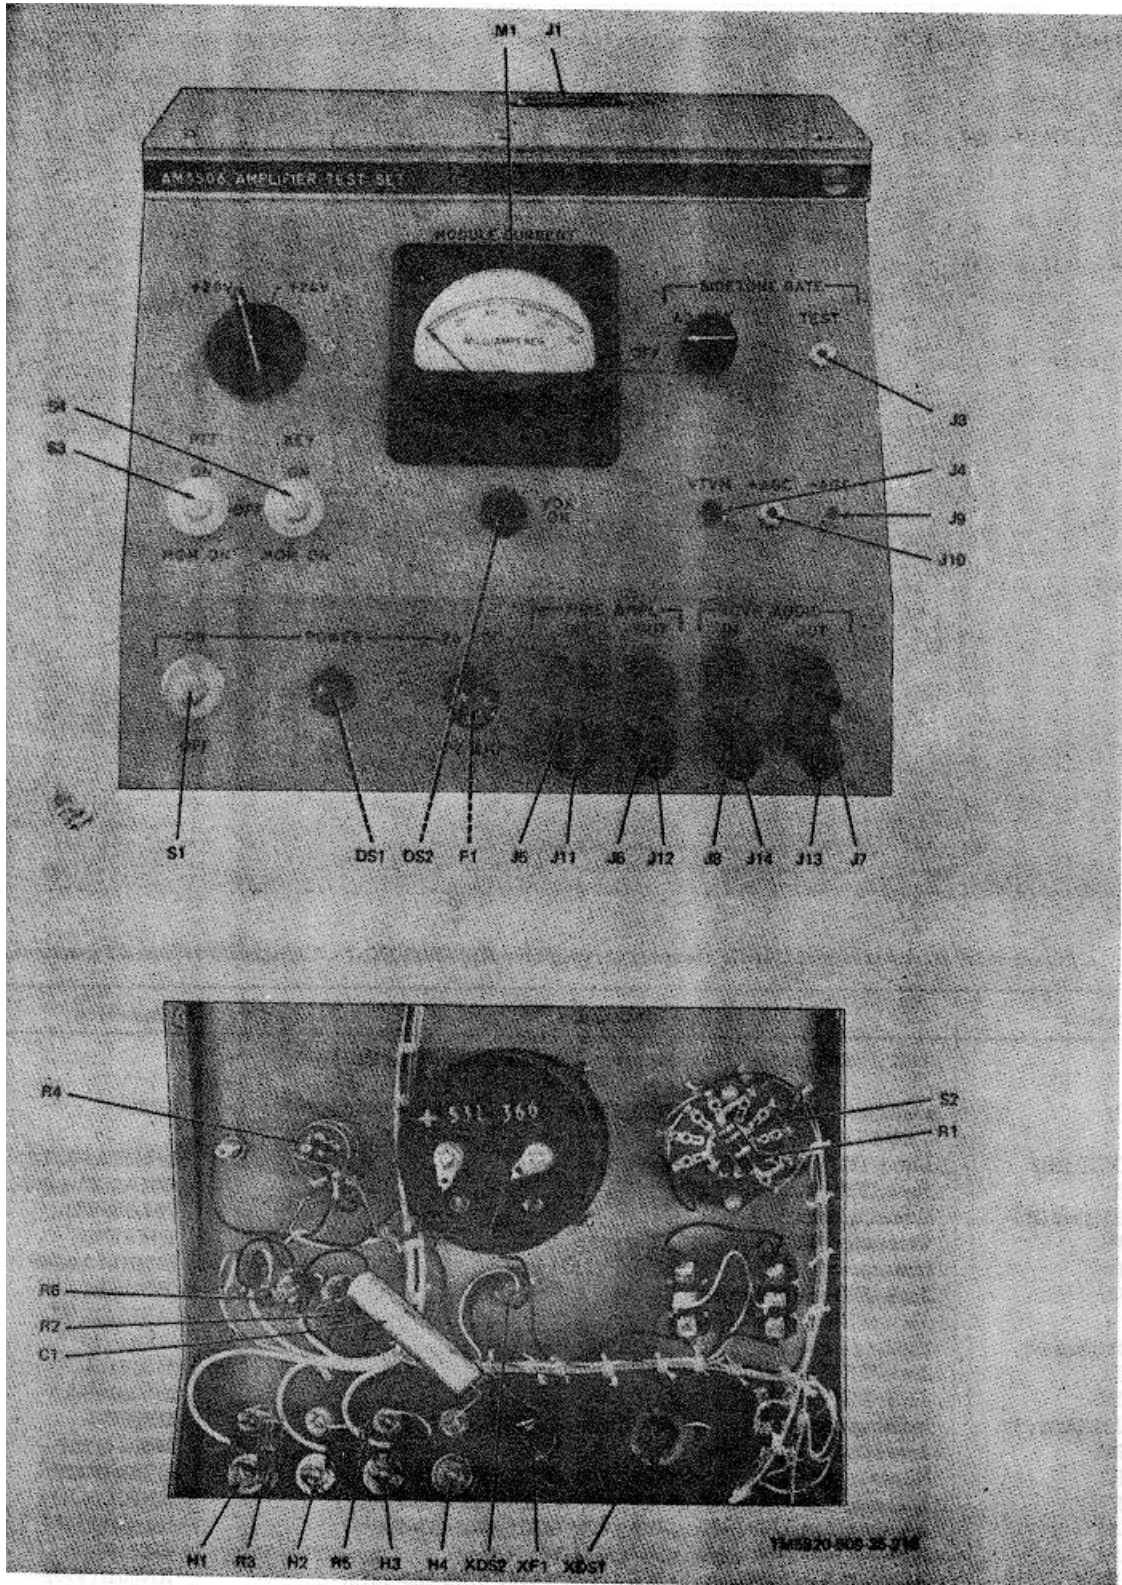

Figure 6-17. Test Fixture for Audio Frequency Amplifier AM-3506/PRC47, Parts Location.
(7) MODULE CURRENT meter. This 0- 150 millimeter indicates the dc current drain of the module.
(8) VOX ON lamp. This indicator is lit whenever the PTT ON-OFF-MOM ON switch is placed to ON or MOM ON.
(9) SIDETONE GATE ADJUST control. This potentiometer varies the sidetone gate bias applied to the receiver amplifier circuit of the module.
(10) Test jacks and binding poets are provided for the attachment of signal leads and test equipment and are self-explanatory.
c. The piece parts required for fabrication of the test fixture are listed in the following chart and suggested parts placement is shown in figures 6-17 and 6-18. Schematic diagram (fig. 715) illustrates the internal circuit of the test fixture.